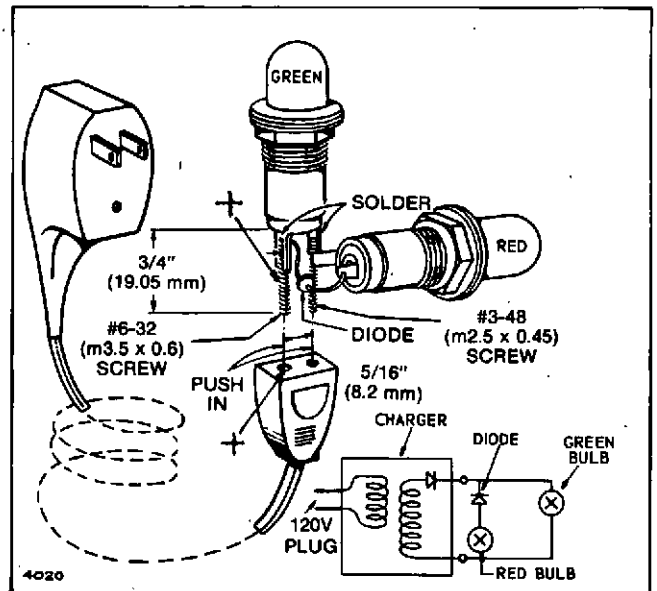

Fig. 52 — Battery Tester
- Faulty battery charger. See Fig. 52.
These components are soldered together as shown in the accompanying illustration, Fig. 52. if desired, these components may be fitted to a plastic case.